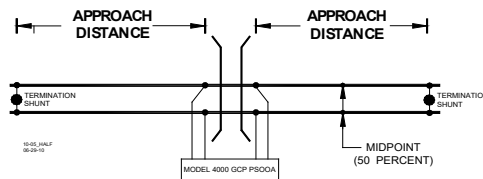

Figure 4: Midpoint Location (See Step 6 below)
Step 31	<p>Transfer the information written in Table 11: Calibration Value History Form, 1st Approach and Table 12: Calibration Value History Form 2nd Approach below onto Figure 1 and Figure 2 of the Model 4000 GCP Application History Card, SIG-00-04-21 and Figure 1 and Figure 2 of the Model 4000 GCP System Cutover Test Procedure and Check Off Sheet, both of which are found at the back of the Model 4000 GCP Family Application Guidelines Manual, SIG-00-08-10. If the initial settings of the GCP were changed or equipment changes were made such that require recalibration of the GCP, Approach, and Linearization, place the updated Computed Distance and Linearization Steps data in Figure 3 and Figure 4 of the History Card.</p>